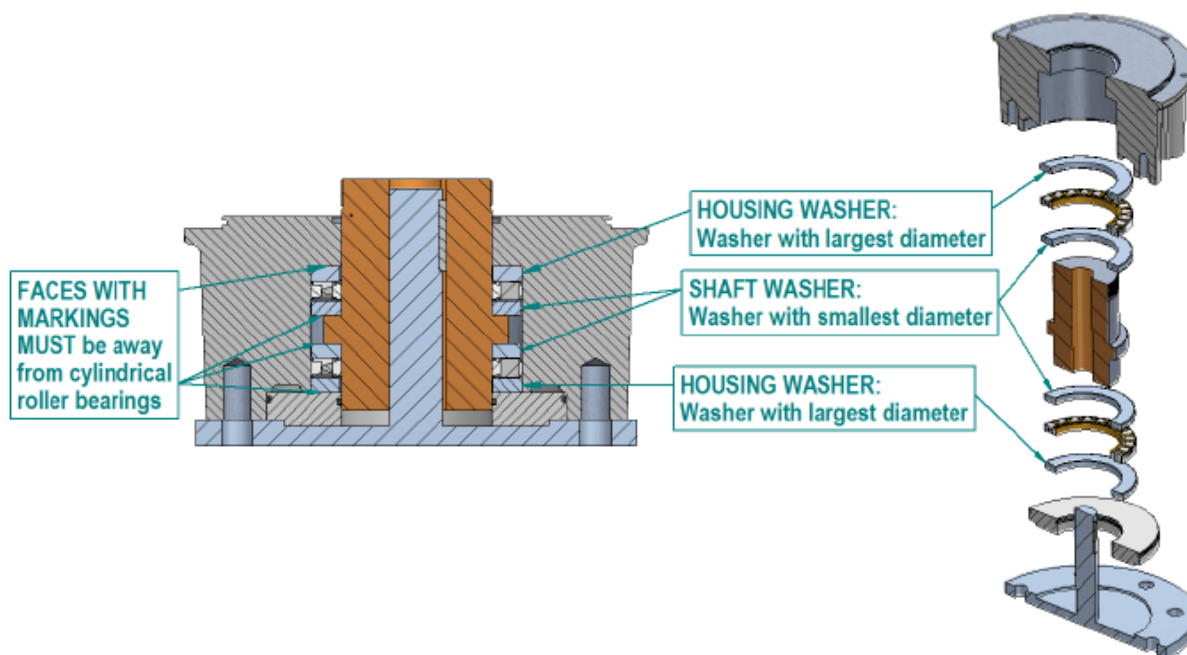

Figure 12: Valve Stem Assembled
For gearboxes with cylindrical roller bearings or gearboxes IB14 and IS14, IS16, and IS18-IS21 It is recommended that the machined output sleeve assembly is assembled on the valve stem/shaft first and then the actuator-gearbox combination lowered to locate on the output sleeve assembly. See Figure 12 for assembly details.
1. Fit as follows; Spigot ring, housing washer (largest outside diameter), bearing, shaft washer (smallest outside diameter), output sleeve, shaft washer (smallest outside diameter), bearing then finally the housing washer (largest outside diameter) on to the valve shaft as shown in the Figure 12 below. The washer faces that are either chamfered or have markings MUST face AWAY from the bearings to decrease wear on the bearing. Bearings should be greased with the appropriate grease. Grease the output sleeve and valve stem/shaft. Note that the spigot ring has an internal and external seal that should also be greased. See step 2 for further instructions.